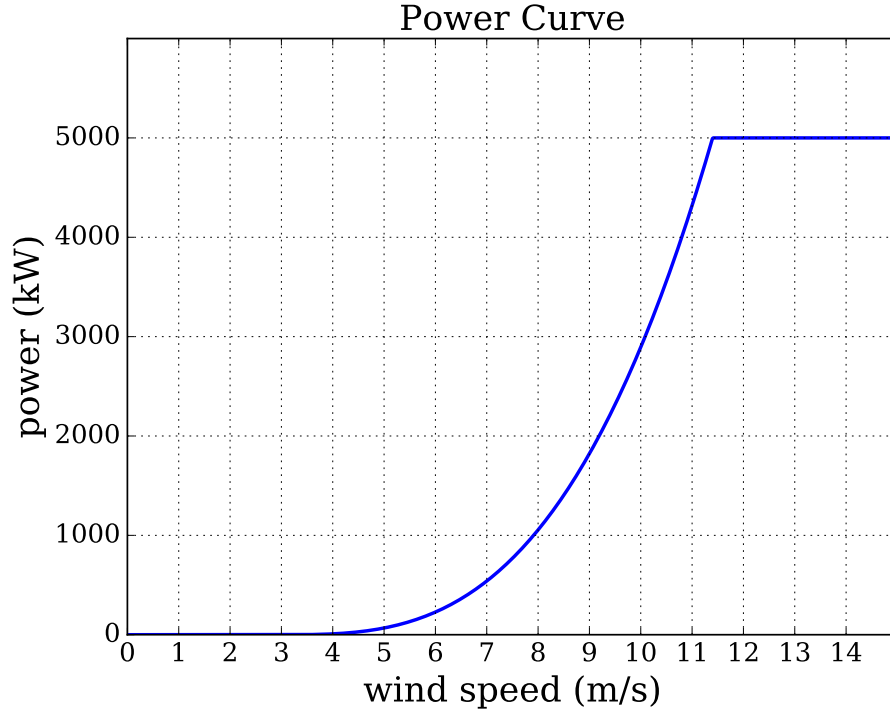

Figure 1: The wind turbine power curve.
The power curve equation is given in Eq. (1) and graphed in Fig. 1.